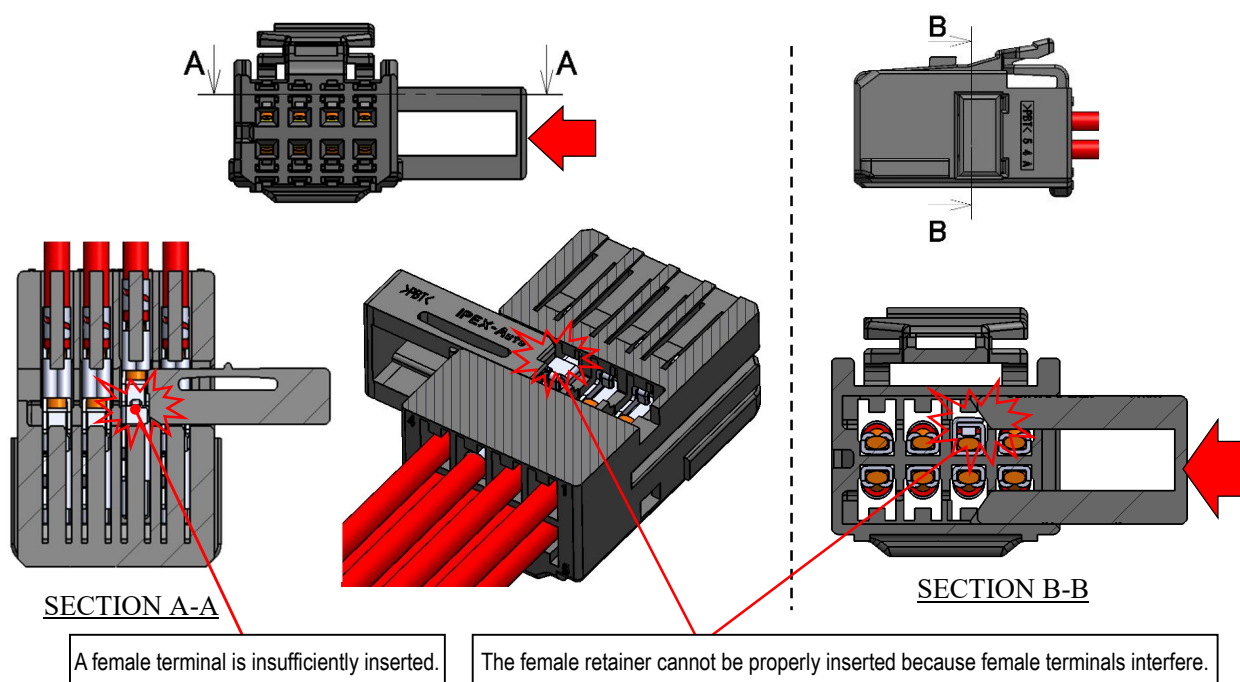

Fig.29 Insufficient female terminal insertion
- ③When female terminal(s) is/are insufficiently inserted as shown in Fig.29, the female retainer cannot be installed.